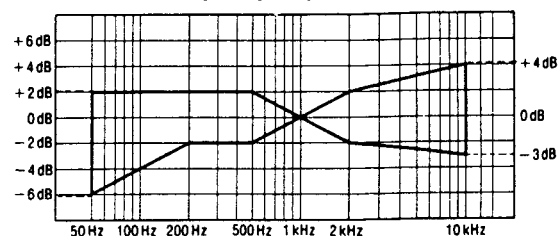

Fig. 10
5. Playback the recorded signal and assure that it is within the range shown in Fig. 10 in comparison to the reference frequency (1 kHz).